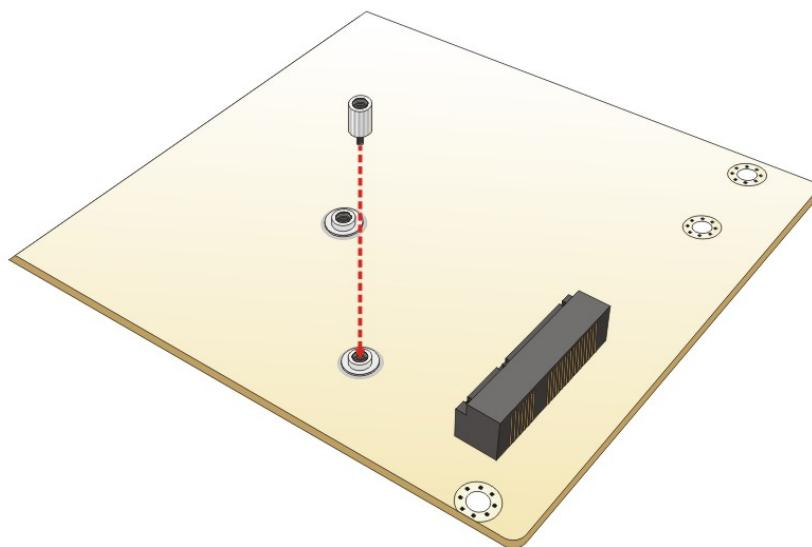

Figure 4-11: Installing the Standoff
Step 4: Install the standoff to the screw hole for the half-size PCIe Mini card. Install the previously removed standoff to the screw hole for the half-size PCIe Mini card (**Figure 4-11**).